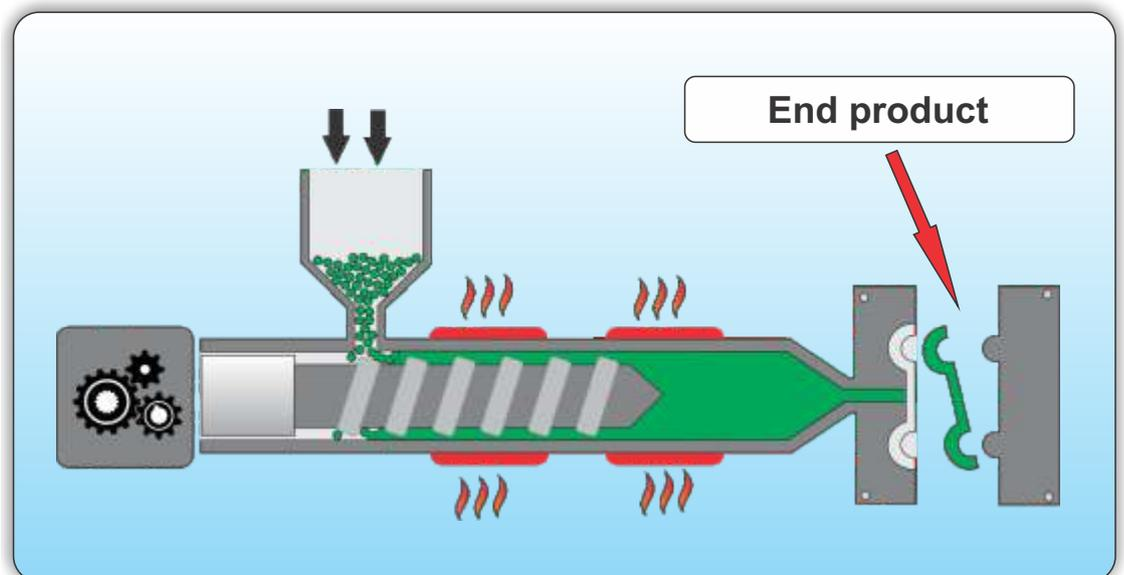

Figure 2.10 Step 4 of extrusion process
- 4** Before being evacuated from the opening mould, the plastic product is allowed to cool and harden (Figure 2.10)